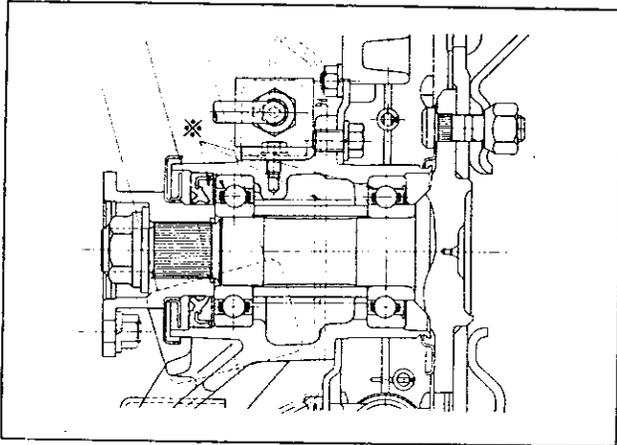

Fig. RA-25 Lubrication chaft of rear axle
1. The outer bearing is provided with a seal in one side. Apply the outer bearing to the rear axle shaft so that the side to which the seal is attached is faced to the wheel. (See Figure RA-25)
Fill the portion indicated by asterisk (*) in Figure RA-25